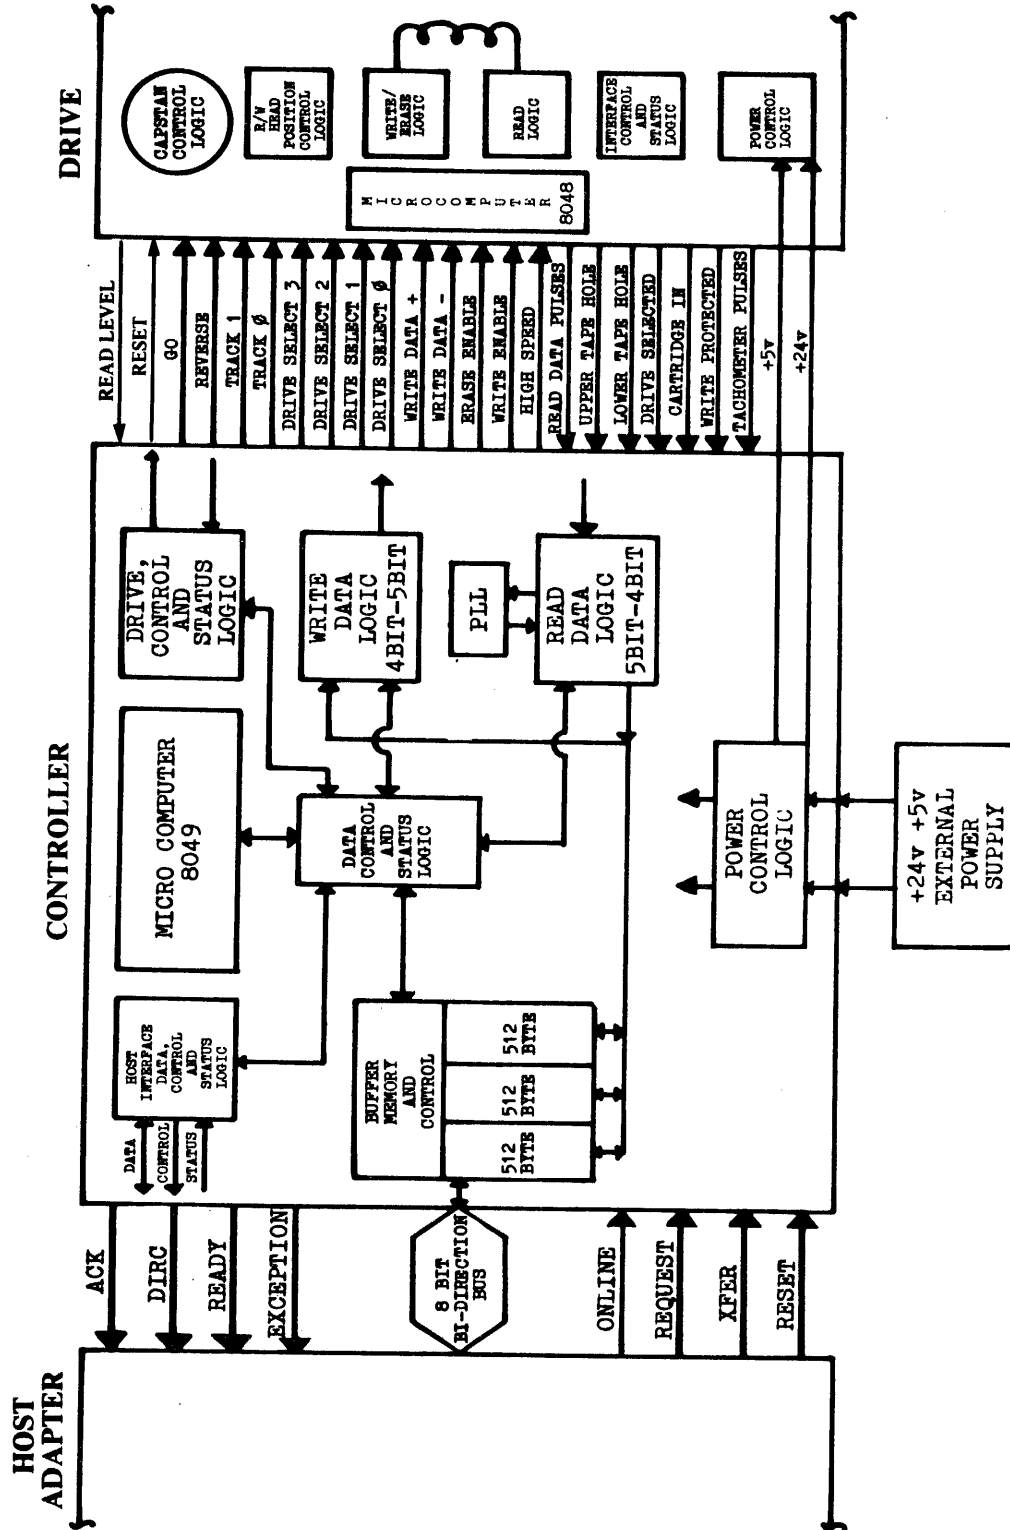

Figure 9-3. Intelligent Controller Block Diagram
**9.10 CONTROLLER DATA FLOW (Figure 9-3)**